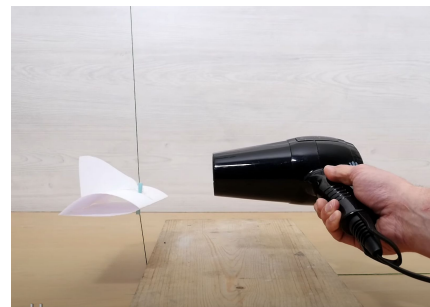

Figure 10: Aim the hairdryer at the wing and watch it rise up the string like an airplane!
8. Now, take your hair dryer and blow it straight into the wing, and watch the wing rise upwards due to Bernoulli's Principle! This is how airplanes are able to generate lift off of the runway. **(see figure 10)**